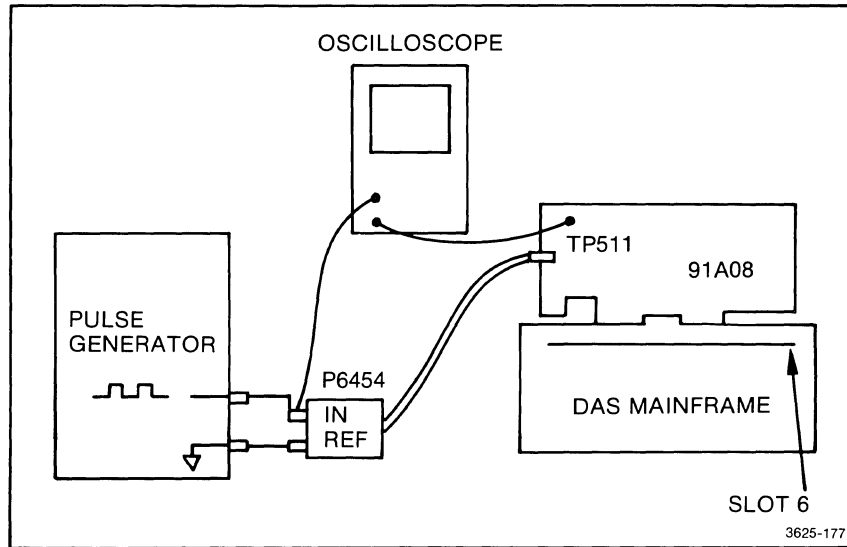

Figure 5-57. 91A08 clock delay adjustment equipment setup.
6. Connect the slower of the two oscilloscope channels (the channel that had the right-most rising edge in step 4) to TP511 (if the delay is the same, either probe may be used). Connect the ground of the probe to any convenient ground on the board. Connect the other channel of the scope to the input of the clock probe (DO NOT connect it at the output of the pulse generator). Refer to Figure 5-57.